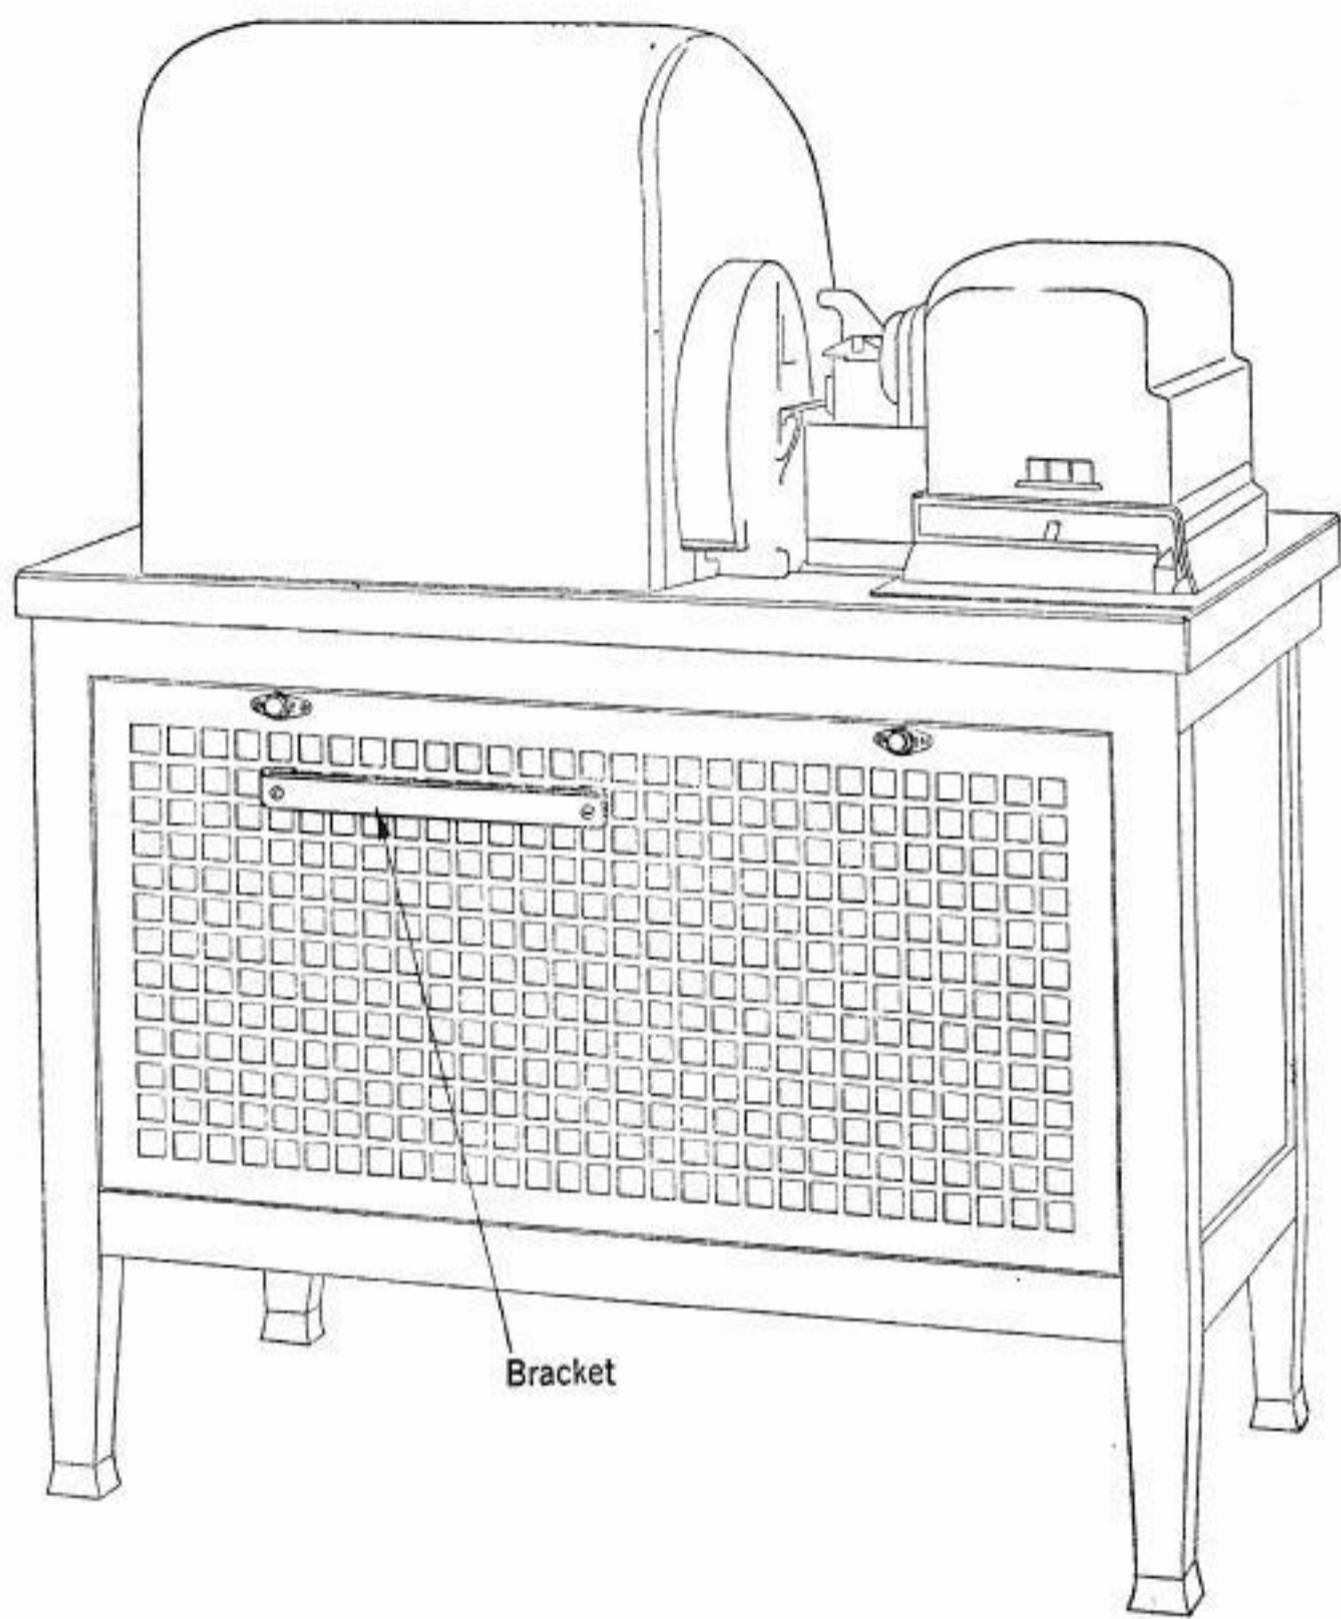

Fig. 2
3.01 The bracket is mounted on the grille on the second row of openings from the top with the left-hand mounting screw in the fifth hole from the left. Before the screws are tightened observe that the bracket is in the lower part of the hole and the screws are resting along the bar of the grille. See Fig. 2 for the position of the bracket on the grille. (As shown in Fig. 2 the grille has 13 holes by 29 holes. In the older grilles—10 x 22—the location of left-hand bracket screw is the 4th hole from the left.)